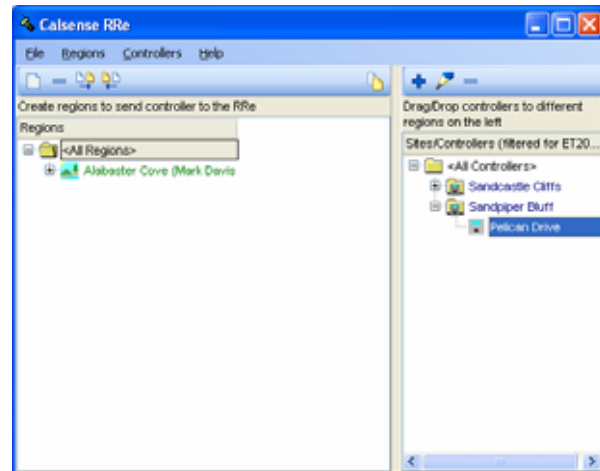

Figure 33.3.8
- Click on the “+” sign to the left of the site name to reveal the controllers list assigned to this site (Figure 33.3.8).